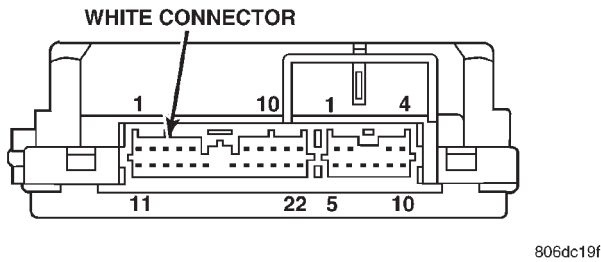

Fig. 8 Body Control Module 22-Way Connector
(9) Using an ohmmeter, check for continuity from terminal 7 of the J3 14-way connector to the terminal 15 of the intermittent wiper relay. If OK, go to Step 10. If not repair as necessary.
(10) Using a voltmeter, connect positive lead to terminal 10 of the BCM J1 22-way connector and negative lead to ground (Fig. 8). Turn ignition switch to the ON position. Slowly move the wiper switch from OFF position through each position to HIGH.